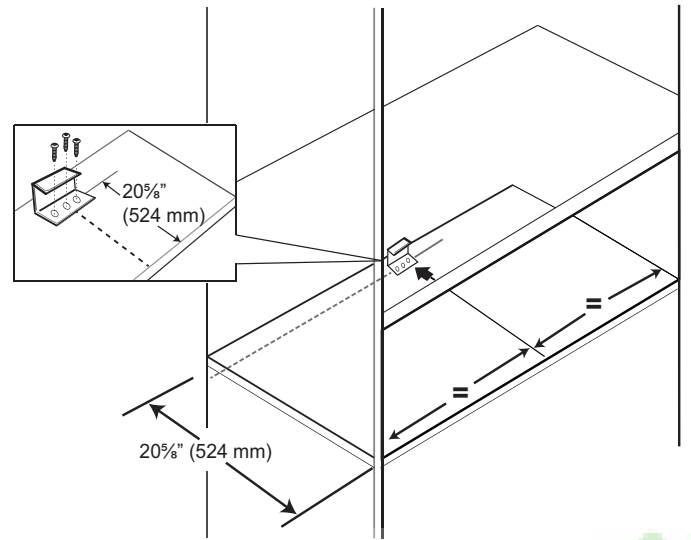

Figure 8: Anti-tip Bracket Location
3. Position the anti-tip bracket on the floor of cabinet opening 20 5/8" (524 mm) from the cabinet edge and spaced equally centered for model type, as shown in *Figure 8*.
- Secure with three (3) 3/4" (3.175 mm) Phillips head screws (included).